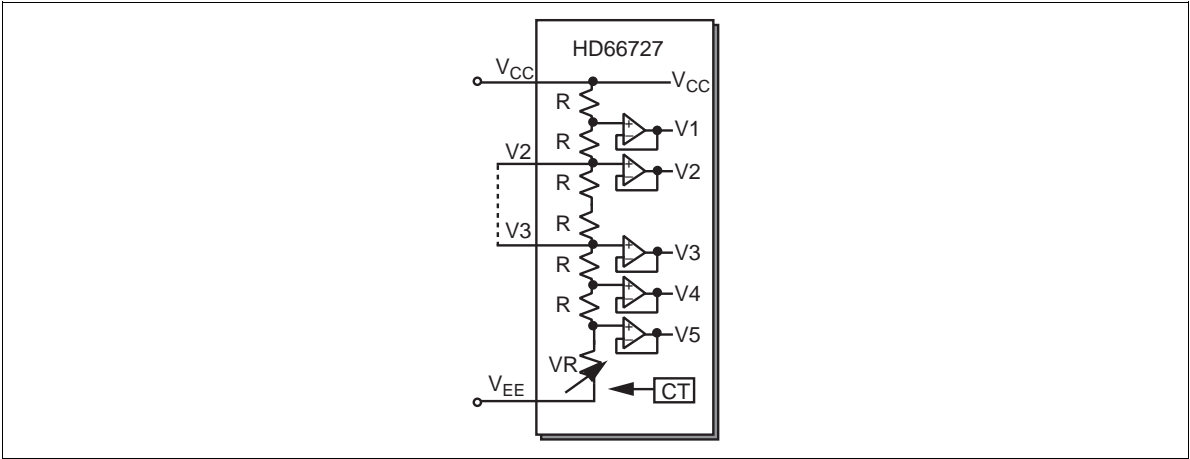

Figure 38 Contrast Adjuster
Contrast for an LCD controlled by the multiplexing drive method can be adjusted by varying the liquid-crystal drive voltage (potential difference between  $V_{CC}$  and V5) through the CT bits of the contrast control instruction (electron volume function). See Figure 38 and Table 30. The value of a variable resistor (VR) can be adjusted within the range from  $0.4 \times R$  through  $6.4 \times R$ , where R is a reference resistance obtained by dividing the total resistance between  $V_{CC}$  and V5.